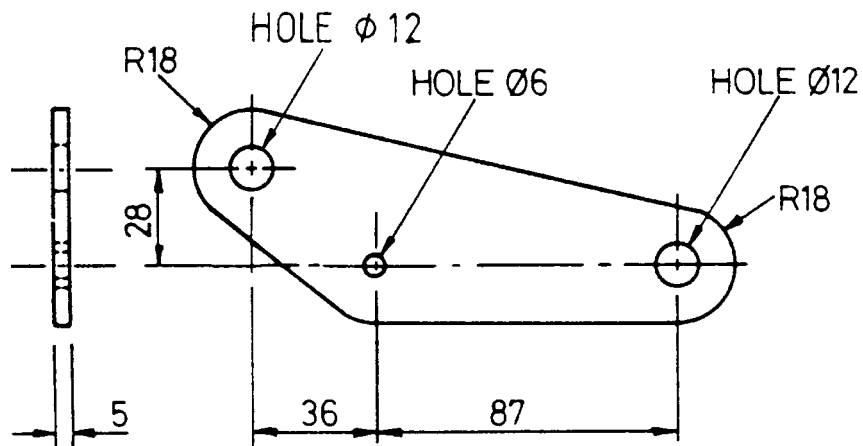

FIG. 5
- (d) The bracket (Item 2, Figure 2) on page 3 is shown in Figure 5.